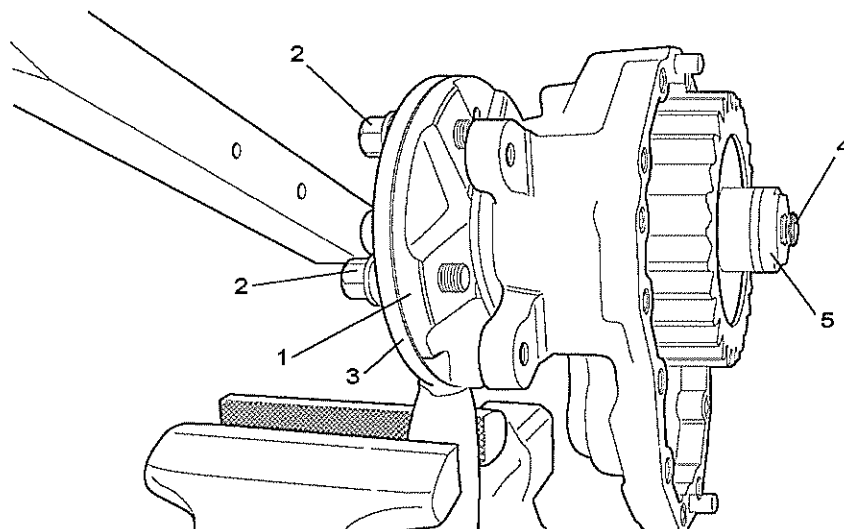

Fig 22 Brake anchor plate showing anti-fatigue bolt threads
22.1 Secure wheel flange (see Fig 22 (1)) in vice.